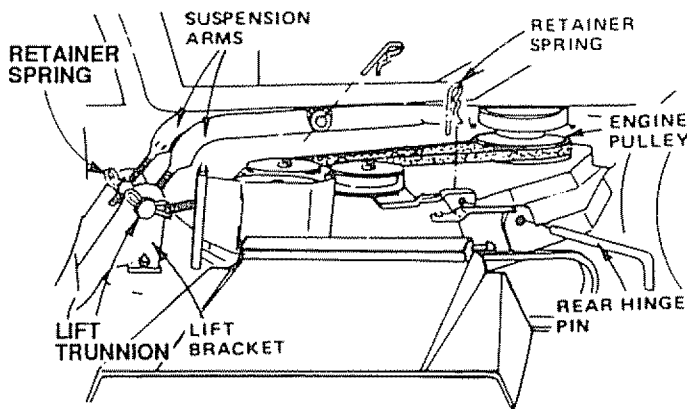
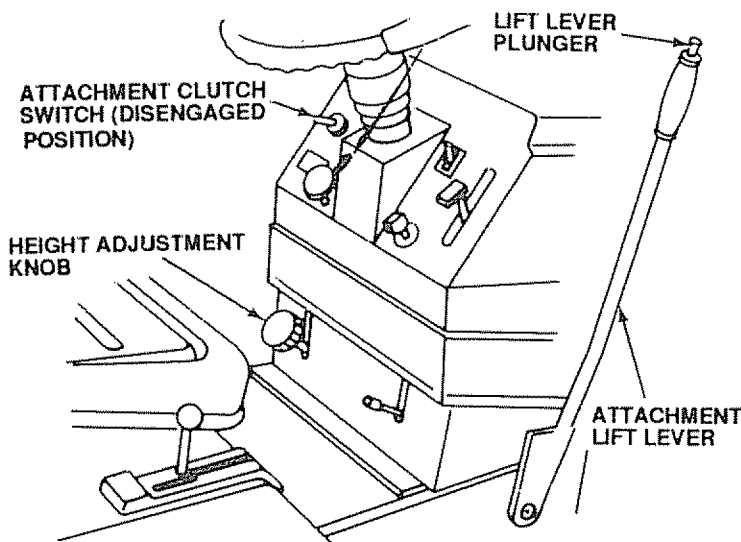
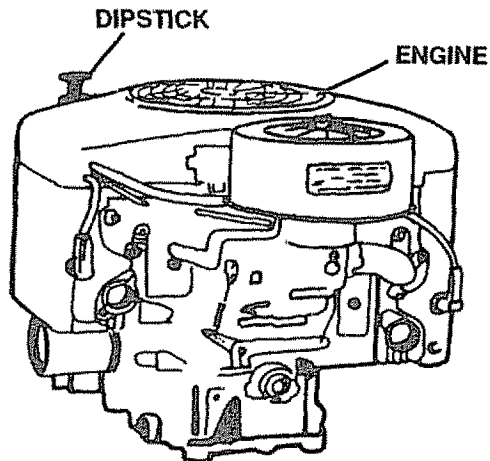

FIGURE 8
FIGURE 9
FIGURE 12
- Raise attachment lift lever (Fig. 9) to its highest position.
- Install rear hinge pin through mower lift brackets and parallel link (Fig. 8). Secure with retainer spring
- Move attachment lift lever (Fig. 9) forward to lower suspension arms. Remove retainer springs from lift trunnions (Fig. 8).
- Slide trunnions through upper lift bracket holes and secure with retainer springs (Fig. 8).
- Pull L.H. idler pulley (Fig. 12) toward the right hand side of the tractor and roll belt over engine pulley (Fig. 8).
- Use attachment lift lever (Fig. 9) to raise mower.